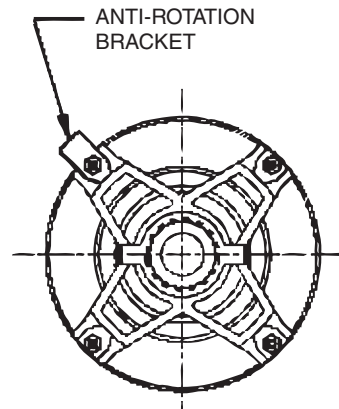

Fig. 3 — Anti-Rotation Bracket
1. Position the motor so that the power plug is closest to the harness assembly. Some motors may include an anti-rotation bracket at the opposite shaft end of the motor. If an anti-rotation bracket is included, position the motor with the anti-rotation bracket on the left side of the vertical motor basket frame member. See Fig. 3.